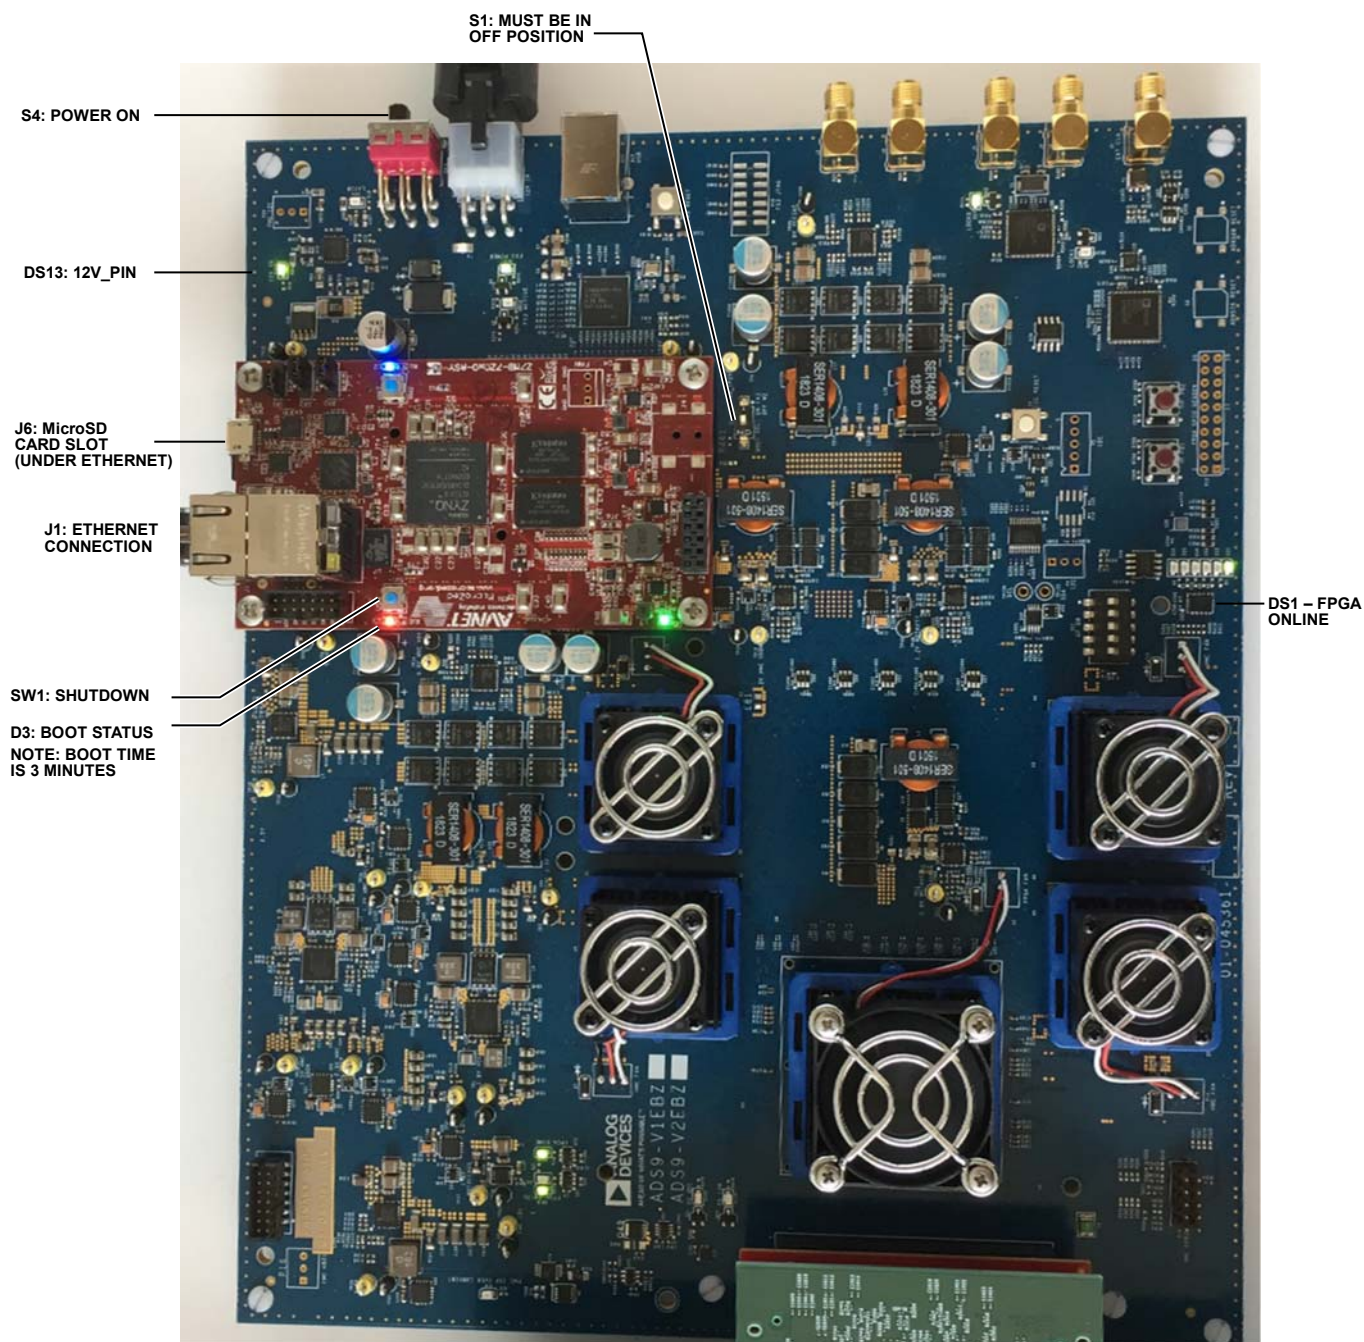
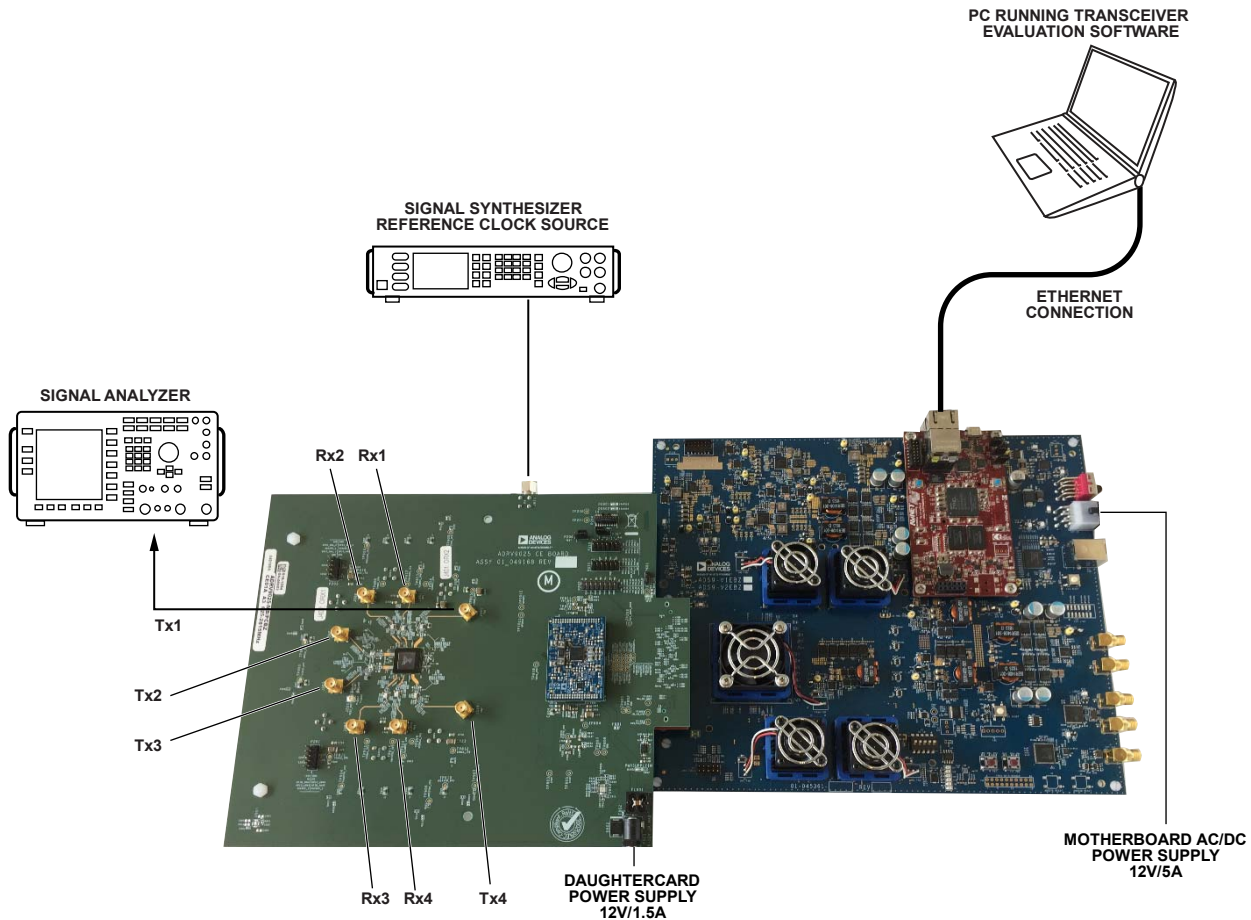

Figure 157. Analog Devices ADS9 Mother Board Configured to Work with ADRV9026 Evaluation Boards
Figure 158. CE Board and ADS9 Motherboard with Connections Required for Tx Testing
Before setup, the ADS9 platform requires the user to insert the SD card included with the evaluation kit into the J6 slot of the ADS9 (MicroZED) platform. The evaluation hardware setup is shown in Figure 157 and Figure 158.
1. Connect the ADRV9026 evaluation board and the ADS9 evaluation platform together as shown in Figure 158. Use the HPC FMC connector (P1001/P2). Ensure the connectors are properly aligned.